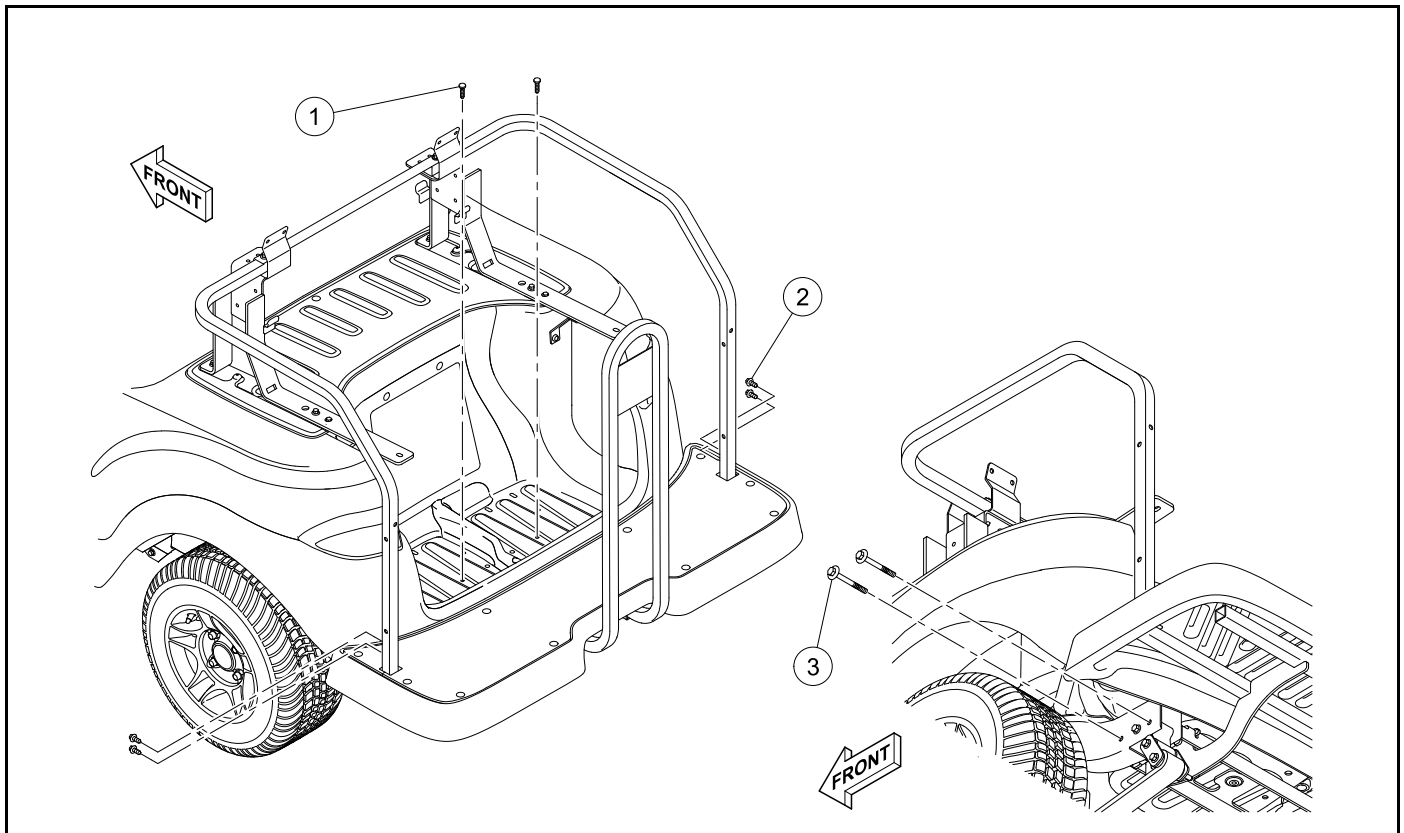

Figure 4-55 Foot Deck (2+2) Installation
2. Install the bolts (3) (**Figure 4-55**). Tighten the bolts to 22 lb·ft (30 N·m).
3. Install the screws (2). Tighten the screws to 13 lb·ft (18 N·m).
4. Install the screws (1). Tighten the screws to 7 lb·ft (10 N·m).